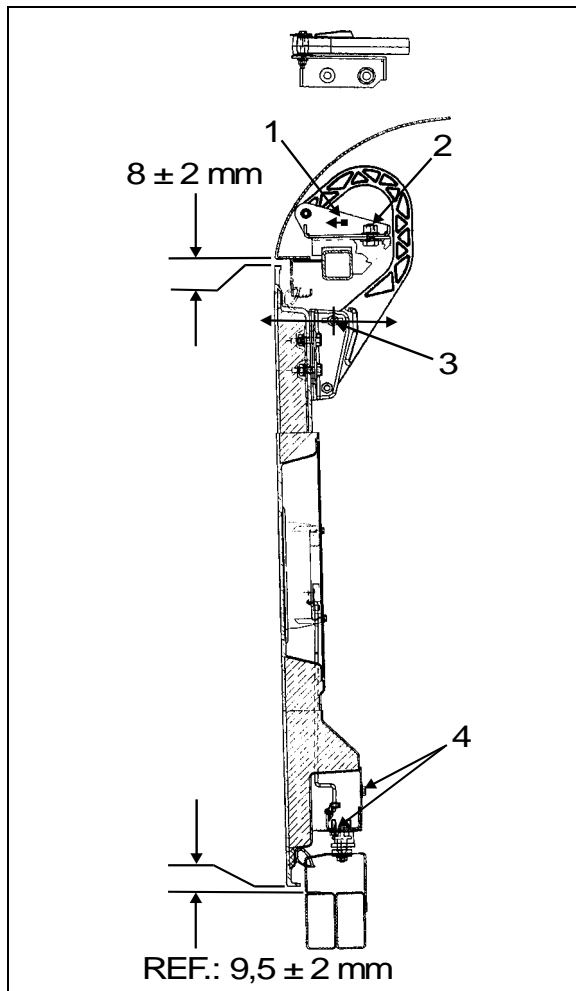

FIGURE 80: DOOR HINGE
2. Loosen nut (2, Figure 80).
3. Move part (1, Figure 80), as close as possible to exterior of coach, so as to have enough clearance for proper door opening.
4. Tighten nut (2, Figure 80).
5. Loosen nut (3, Figure 80). Hinge allows the door to be shifted "IN or OUT".
- Adjust door panel to have the same gap space as neighboring panels or refer to Figure 60 for specified gap space. Only if necessary, use the adjustment allowed by moving part 1, Figure 80.